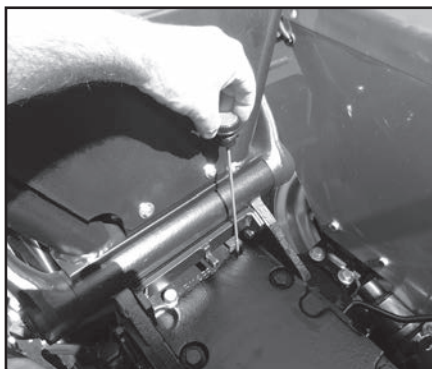

Fig. 6.18
- pull out the dipstick (Fig. 6.18);